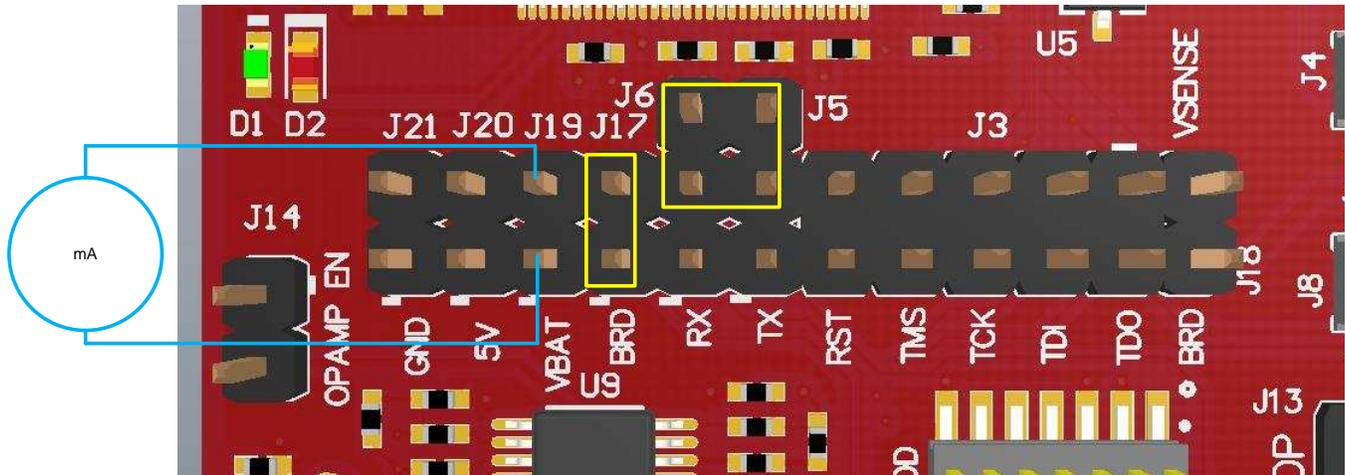

Figure 16. Low-Current Measurement (<1 mA)
1. Remove the VBAT jumper (J19); attach an ammeter across this jumper, as shown in Figure 16. Ensure that jumpers are placed on J5, J6, and J17. The CC3220 device should not drive any high-current loads directly (such as an LED) because this can draw a large current.